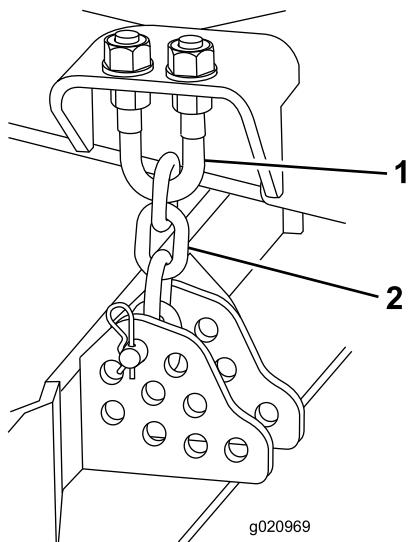

Figure 80
4. Remove the hairpin cotter and clevis pin securing the height-of-cut chains to the rear of the mower deck (Figure 80).